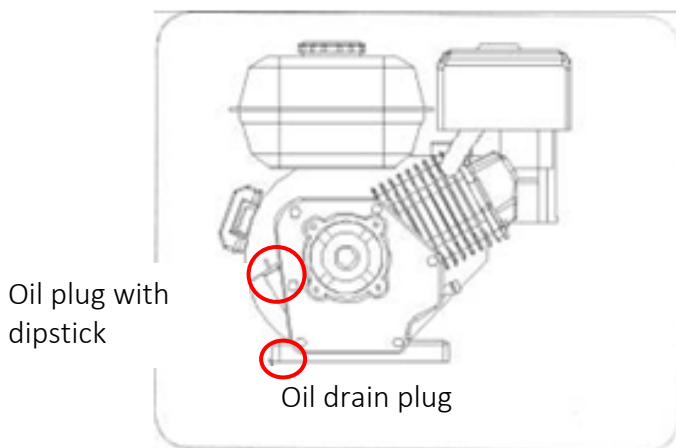

Fig. 28
2. Unscrew the oil plug with the dipstick and wipe the dipstick. See figure 28.
1. Locate the oil drain plug, see figure 28.
3. Clean the area around the oil drain plug, see figure 28.